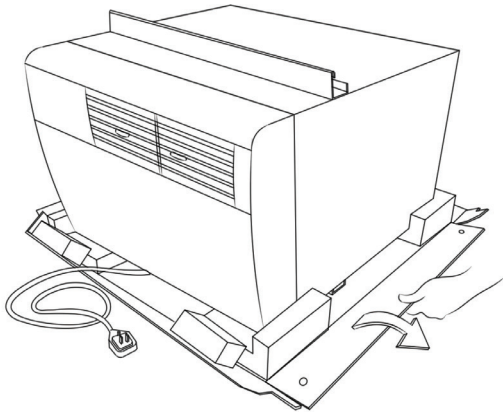

Figure C.4.1
STEP 1. Fold down the sides of the carton bottom tray (see Figure C.4.1).